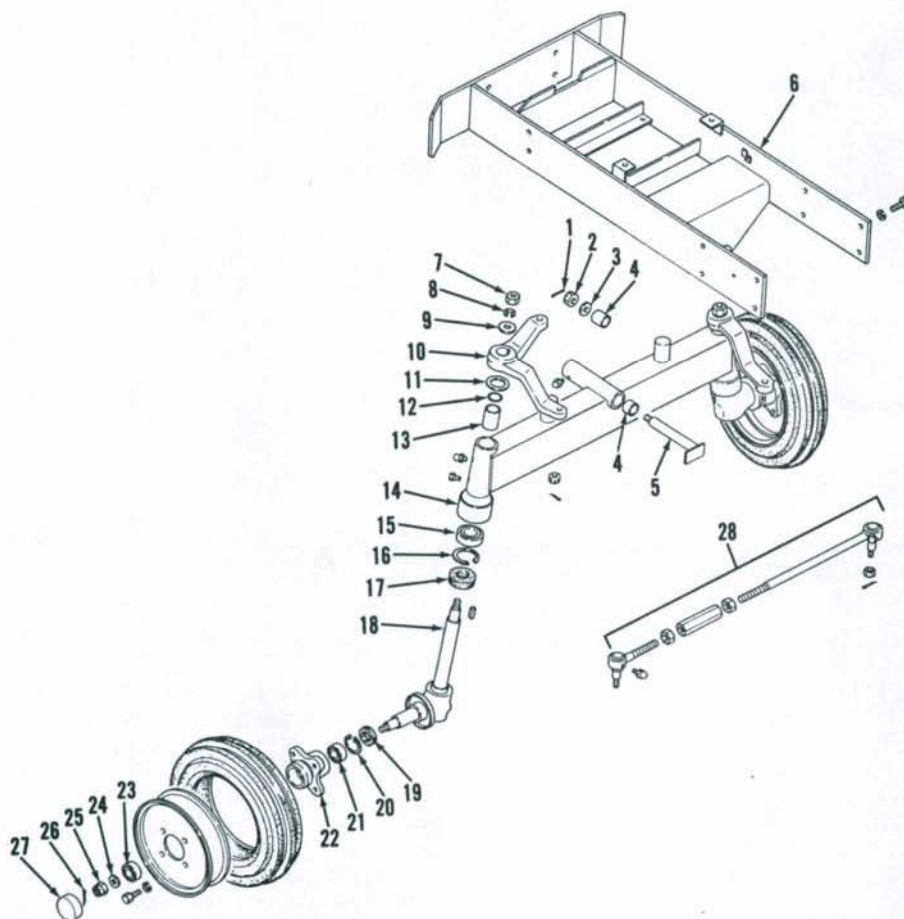
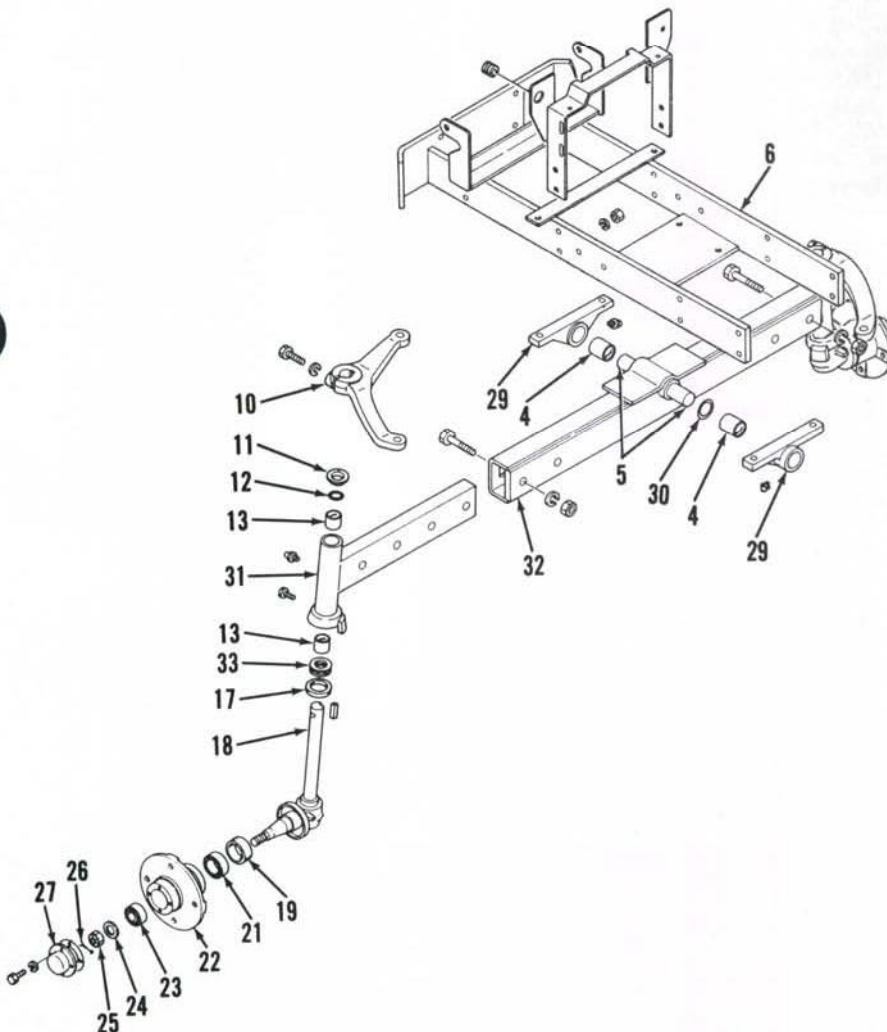

Fig. 1—Exploded view of non-adjustable front axle used on YM155 models. Axle used on YM135 is similar.
Fig. 2A—Exploded view of adjustable axle available for YM195 and YM240 models. Except for adjustable width feature, heavy duty non-adjustable axle is similar.
1. **ADJUSTMENT.** Refer to appropriate Fig. 1, 2, 2A or 3 for exploded view of fixed or adjustable tread non-driving axle. Toe-in should be 4-8 mm (5/32-5/16 in.) for all models. Length of drag link should be adjusted to provide equally sharp turns in both directions.
Front axle should not have excessive front to rear clearance at pivot shaft (5). Excessive clearance can be removed from YM195 and YM240 models by relocating brackets (29—Fig. 2) closer together. Be sure all attaching screws are retightened after adjustment is complete. On all other models, adjust axle play at pivot by tightening the castle nut (2—Fig. 1 or 3) on pivot shaft. Be sure to
2. **REMOVE AND REINSTALL.** Support front of tractor and disconnect drag link from steering arm. On YM135 and YM155 models, remove cotter pin and castle nut (2—Fig. 1) from axle pivot shaft, support axle with jack, then remove washer (3) and pivot shaft (5). On YM195 and YM240 models, support axle with jack, unbolt pivot brackets (29—Fig. 2 or 2A) from frame, then
When assembling YM135 model, castle nut (2—Fig. 1) should be toward rear. On YM155 model, castle nut is toward front. Bushings (4) are 25 mm (0.984 in.) long for YM135 models; 24 mm (0.945 in.) long for YM155 models. Tighten castle nut (2) on YM135 and YM155 models enough to remove all axle play; however, axle should move smoothly and freely on pivot.
3. **OVERHAUL.** The steering spindle (18—Fig. 1, 2, 2A and 3) is equipped with renewable bushings (13) and some
models are equipped with bearings (15 and 33). Inside diameter of bushings (13) should be sufficient to provide correct clearance for the spindle. Adjust spindle end play by adding covers (11 – Fig. 1, 2 or 2A) or shims (40 – Fig. 3) as required.
Fig. 2—Exploded view of standard non-adjustable front axle used on some YM195 and YM240 models. Refer to Fig. 1 for wheel hub and bearings. Refer to Fig. 2A for optional adjustable axle and heavy duty axle.